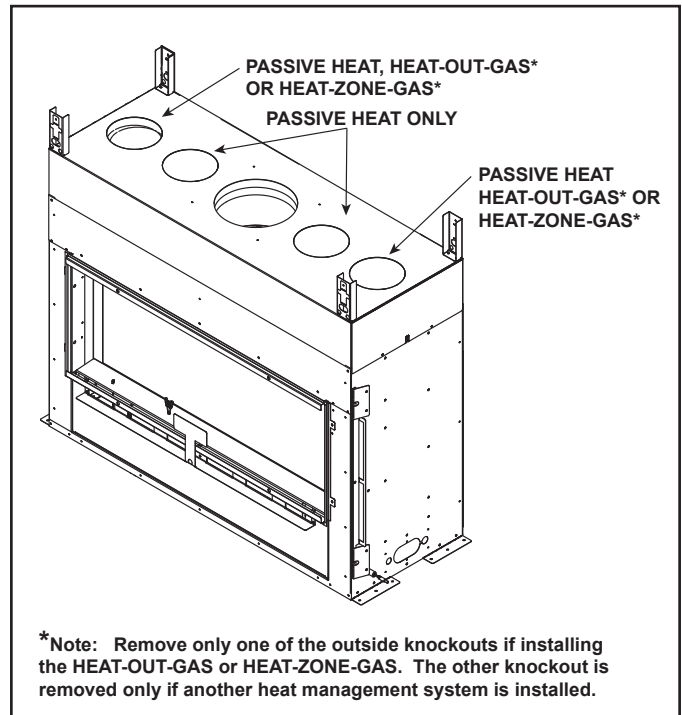

Figure 6.4
- Center the duct collar around the exposed hole and attach it to the appliance. See Figure 6.4.
- Passive Heat (PH-FRT, PH-SIDE): May be used with HEAT-ZONE-GAS or one HEAT-OUT-GAS. The dedicated knockouts must be used only as indicated in Figure 6.4.